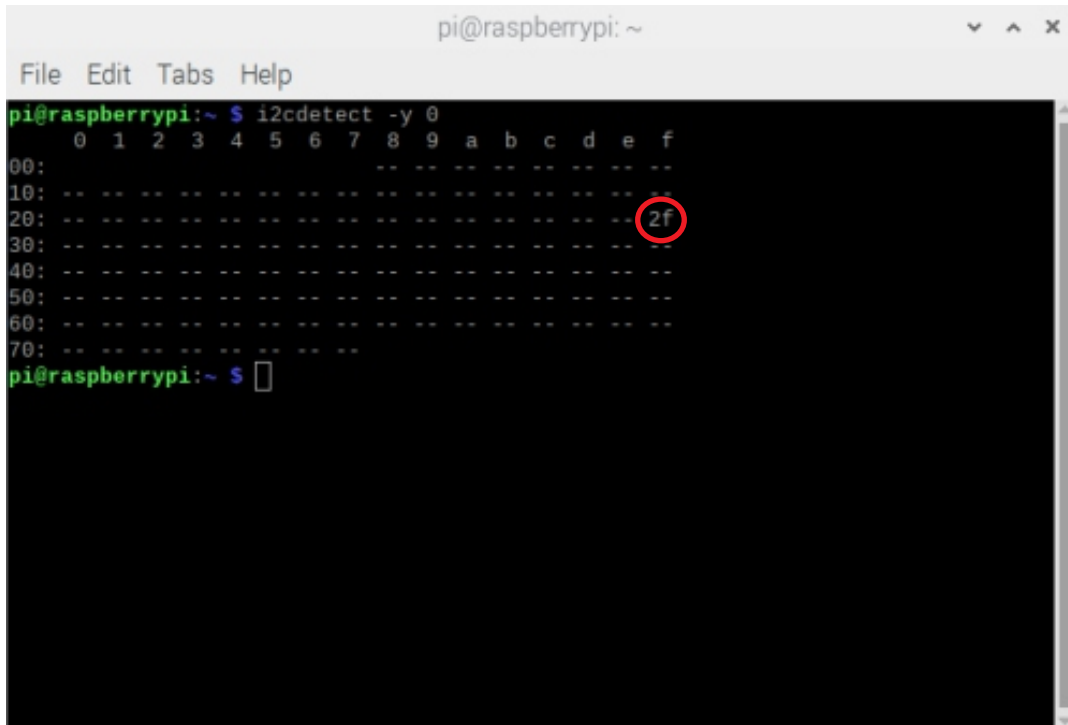

Figure 2: The Thermocouple Input Module I2C address check result .
4. The result will be similar to the Figure 2 shown below.